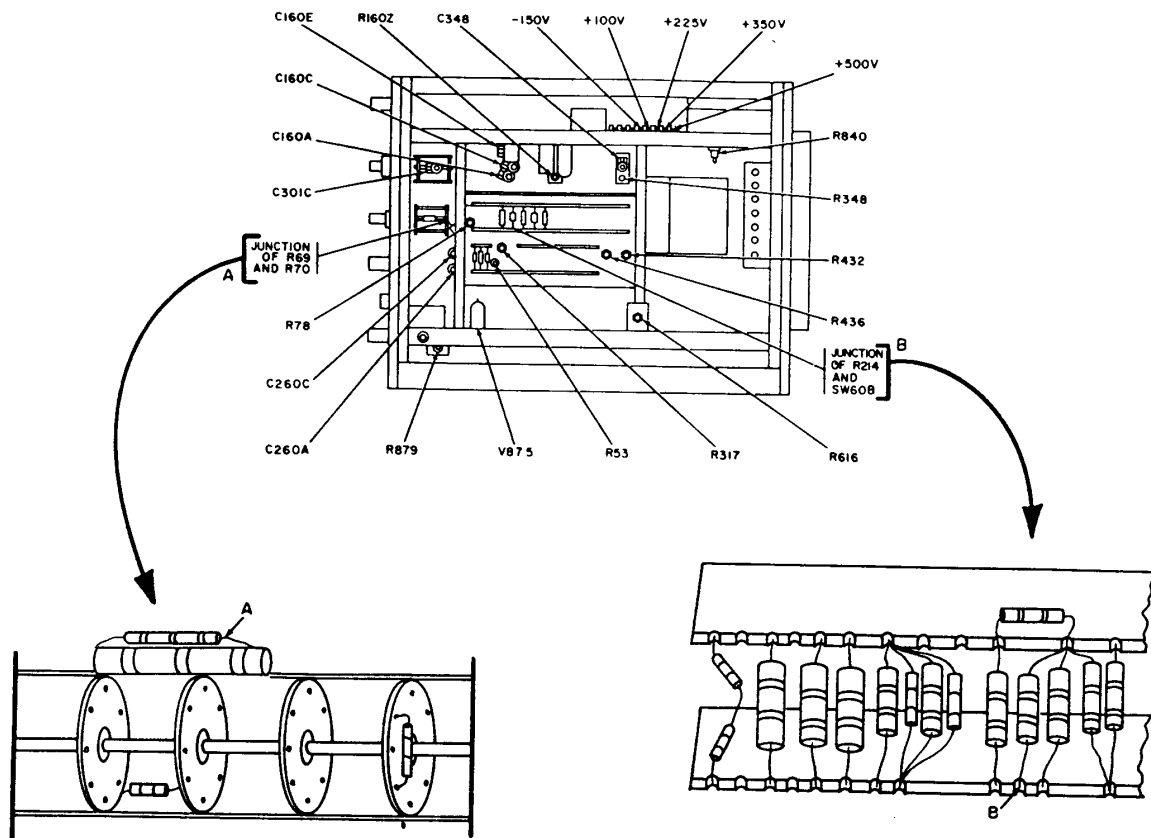

Figure 2. Oscilloscope - right side view (454A), bottom view (RM45A).
(1) Turn TI POWER switch to off position (down) and remove tube V875 (fig. 2) from TI.
(2) Turn TI POWER switch to ON.
(3) Connect ac/dc voltmeter (A1) between TI CAL OUT connector and chassis ground using two leads (B7).
(4) Turn TI AMPLITUDE CALIBRATOR to 100 VOLTS. If ac/dc voltmeter does not indicate between 97 and 103 volts dc, adjust CAL ADJ R879 (fig. 2) until ac/dc voltmeter indicates 100 volts dc (R).
(4) Connect junction of R69 and R70 (fig. 2) to chassis ground, using lead and adapter (B7 and B1).
(5) Turn TI TRIGGER SLOPE switch from +INT to -INT and back to +INT while observing crt waveform. waveform will invert and remain stable.
(6) Turn TI TRIG LEVEL CENTERING control R78 (fig. 2) fully clockwise and STABILITY control counterclockwise until waveform just disappears; then, turn two or three degrees farther.
(7) Turn TI TRIG LEVEL CENTERING control R78 counterclockwise until waveform reappears.
(8) Turn TI TRIGGER SLOPE switch from +INT to -INT and back to +INT. Adjust TRIG LEVEL CENTERING control R78 to obtain a stable waveform in both positions.
(9) Turn TI STABILITY control fully clockwise and TRIGGERING MODE switch to DC.
(10) Adjust calibration adapter VARIABLE control for 3 minor divisions of display on TI crt.
(11) Adjust TI STABILITY control for stable display.
(12) Turn TI TRIGGER SLOPE switch from +INT to -INT and back to +INT. If waveform does not invert and remain stable in both positions, adjust INT TRIG DC LEVEL R53 (fig. 2) until a stable waveform is obtained in both positions.
(13) Remove had and adapters ground the junction of R69 and R70.
(14) Turn TI TRIGGERING LEVEL control until display is stable. If white dot on TI TRIGGERING LEVEL control does not point to zero, loosen setscrew on TRIGGERING LEVEL control and turn knob until white dot points to zero.
(15) Tighten setscrew and remove connection to calibration adapter EXT INPUT.
(16) Position TI controls as listed in (a) through (c) below: